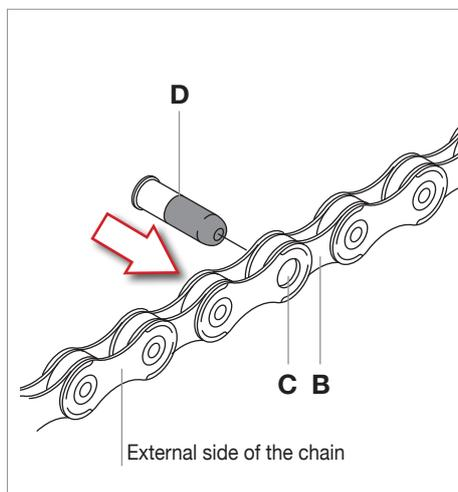

Fig.6
- Insert the inner link (B - Fig. 6) into the outer link (C - Fig. 6), and then insert the drive part of the union bushing ULTRA-LINK 5-CN-SR700 (D - Fig. 6) into the hole of the link from the inside of the chain towards the outside.